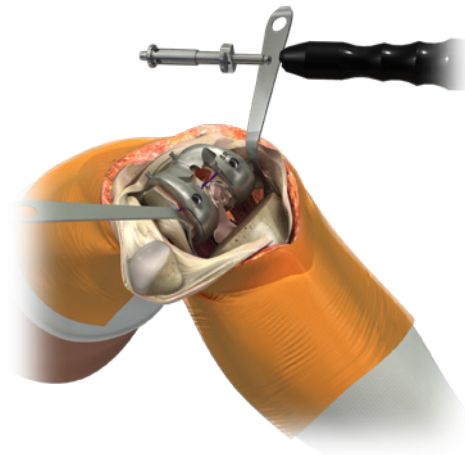

Figure 40
1. For cruciate retaining femorals, after completing step 3 of the component trialling section (page 17), prepare the femoral lug holes through the femoral trial with the femoral lug punch (Figures 40 and 41).